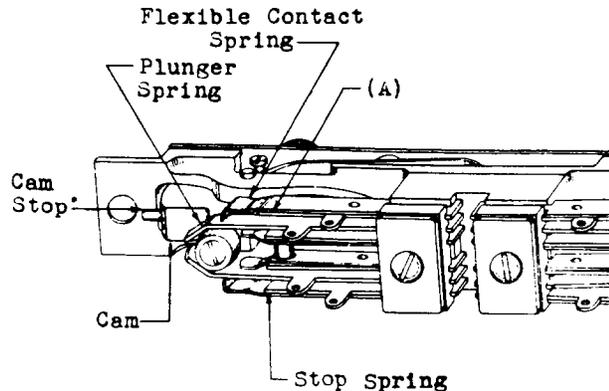

Fig. 5
- *2.10 Flexible Contact Spring Position - Fig. 5 (A)** - The flexible contact springs shall rest on their respective stop springs when the lever is in the unoperated position for normally open contacts and in the operated position for normally closed contacts. It is not necessary for the spring to rest on the stop spring for its entire length, but it must rest on the end of the stop spring which is nearest the contact. Gauge by eye.